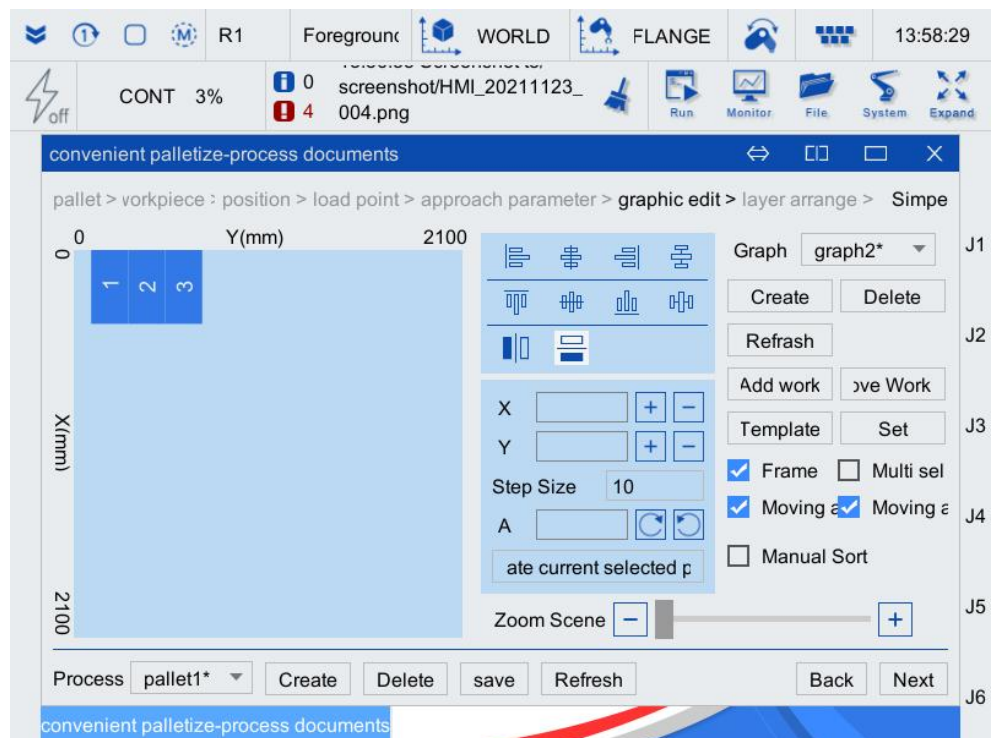

Figure 3-34 Graphic editing interface of the second layer of pressing seam palletizing
Step9. The workpiece arrangement is shown in Figure 3-34. Click < save > on the right.